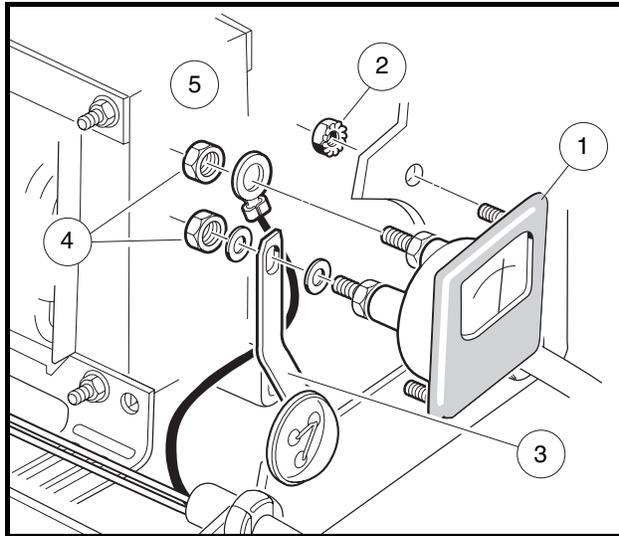

Figure 4-20 Ammeter
3. Disconnect the black wire from the DC cord (5), and the buss bar (3) from the ammeter (**Figure 4-20, Page 4-25**).
4. Remove the two nuts (2) that secure the ammeter to the charger face.
1. Place the ammeter in position in the charger face (**Figure 4-20, Page 4-25**).
2. Install nuts (2) and tighten until ammeter is firmly secured.
3. Connect the black wire of the DC cord (5) to the left (as viewed from inside the charger) post of the ammeter.
4. Connect the buss bar (3) from the fuse link to the right post of the ammeter. Place flat washers on both sides of the buss bar.
5. Thread nuts (4) onto both posts of ammeter until just past finger tight. While holding the inside nut, tighten the outside nut (4) 1/4 turn. **See following CAUTION.**
3. Remove both black secondary coil transformer wires and the buss bar from the back of the fuse link assembly (**Figure 4-20, Page 4-25**).
2. Install the buss bar (3) over the center branch of the fuse assembly and ammeter post (**Figure 4-20, Page 4-25**). Tighten to 22 in-lb (2.5 N·m).